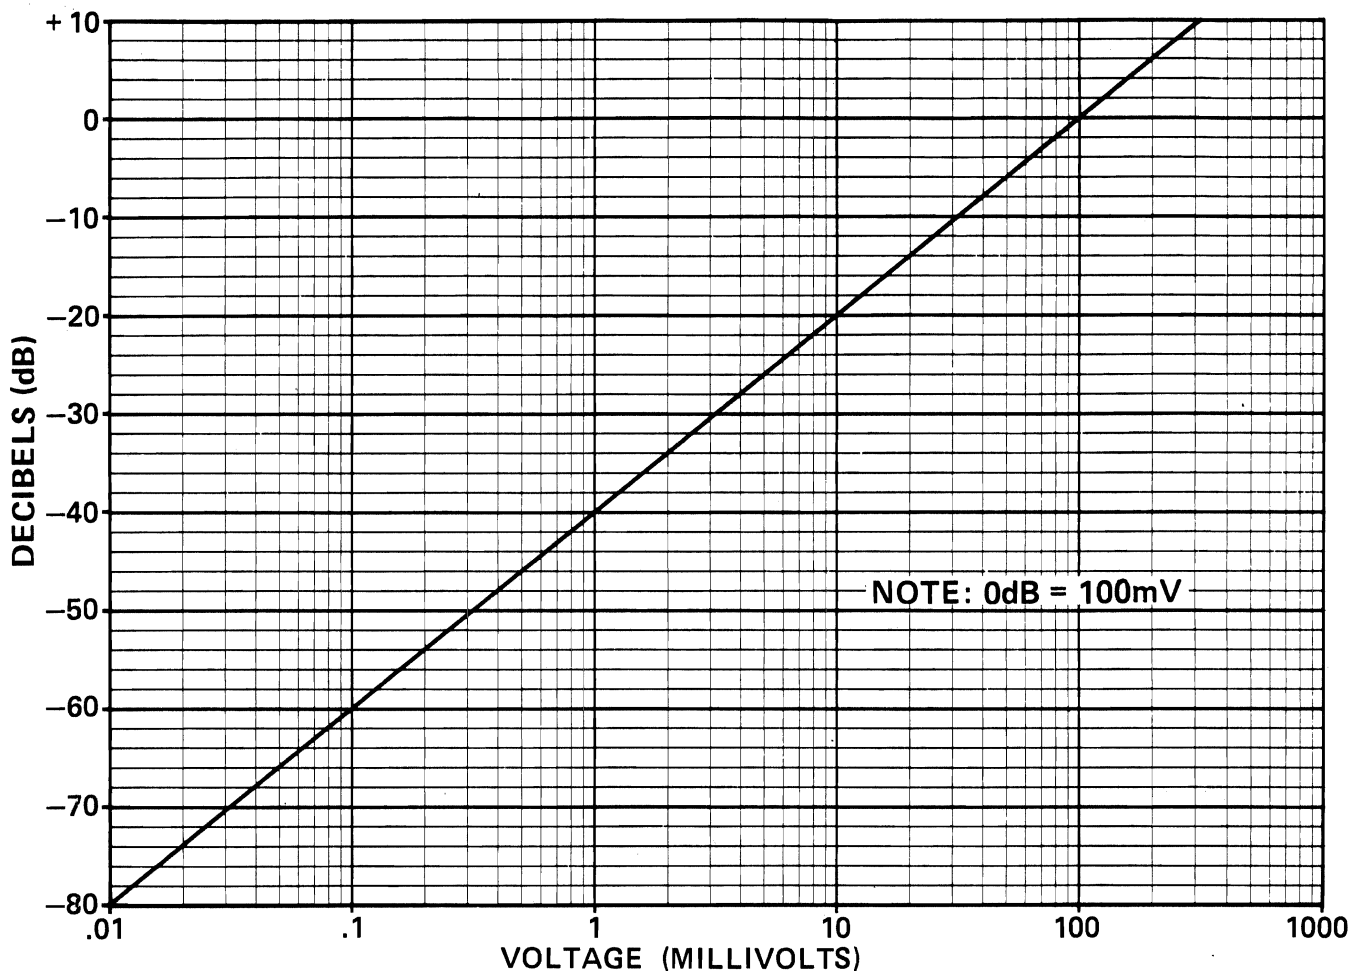

Fig. 2 Voltage To Decibel Conversion Chart
5) Refer to Fig. 2. Determine the amount of attenuation in decibels required to produce the desired output signal level. The output level may be in millivolts, microvolts etc., but must be converted to db to correspond with the RF Generator controls. (NOTE: 0db = 100mV in this unit.)
8) As an example, assume the desired output signal level is 5 millivolts. From Fig. 2 this corresponds to -26db. Set either (but not both) of the 20db plus the 6db ATTENUATOR switches to the IN positions. Rotate the RF LEVEL control for a 0db indication on the Meter.